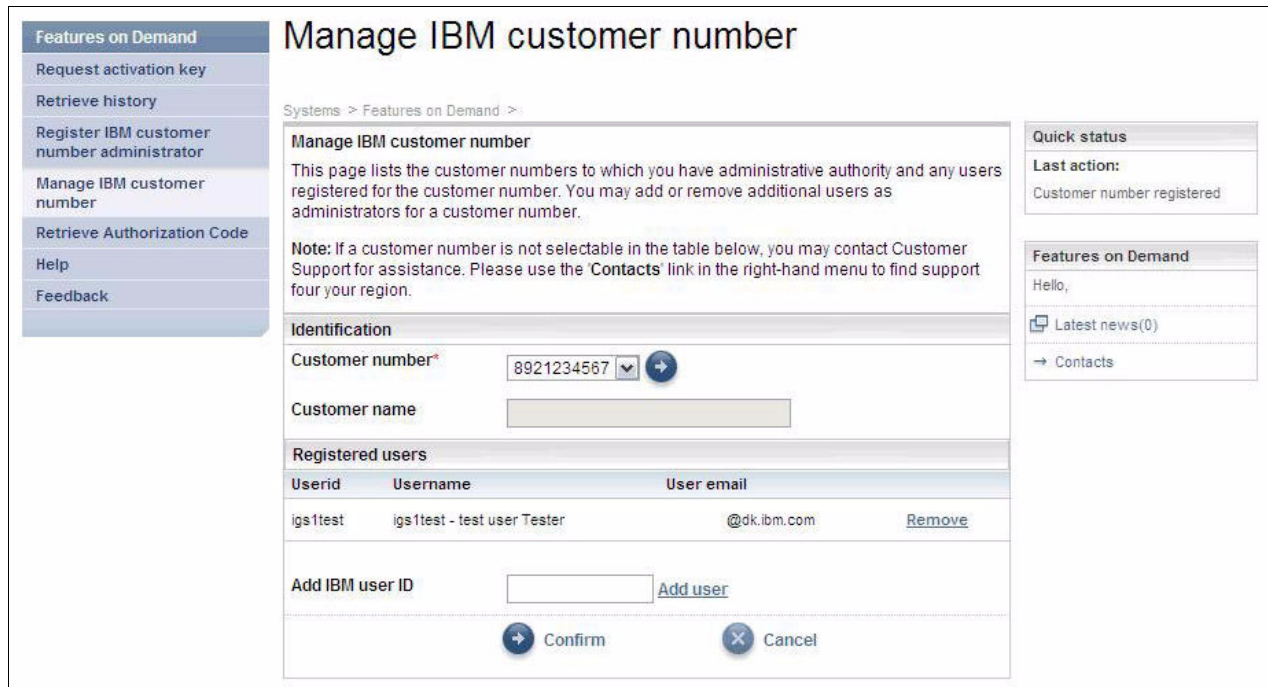

Figure 2-48 Linking more users to a customer number
3. To link more users to your customer number, complete the following steps as shown in Figure 2-48 on page 47: